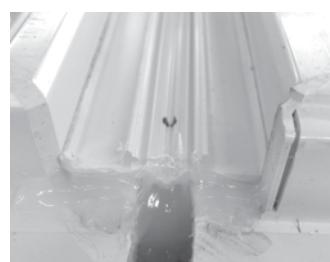
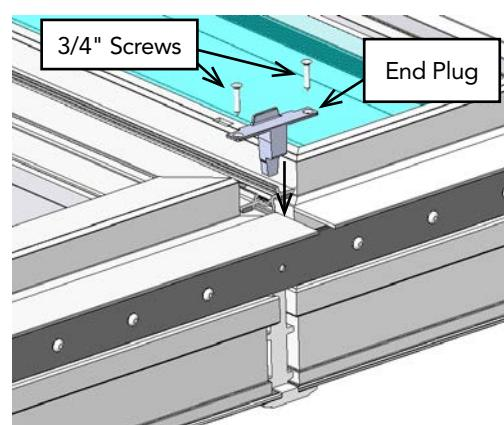

Figure 16b
Figure 22
Place the supplied End Plug against the exterior mullion **at the sill end only**, between the gap in the frames as shown (Figure 16). **NOTE: The flange of the end plug will need to be cut off on the door side only to clear the sill.** (As shown in Figure 16a) Fill the cavity and frame areas where the plug fits with caulk. (Figure 16b) Start the end plug at an angle and push the down firmly onto the frames, making sure the caulking in the grooves makes a good seal between the frames and the end plug. Install a #6 x 3/4" screw in the hole in the flange of the end plug and into the sidelite frame.
26. Fill the cavity and frame areas where the plug fits with caulk (**Figure 16b**). Place a supplied end plug against the exterior mullion on both ends as shown, between the gap in the frames (**Figure 22**). Start the end plug at an angle and push the down firmly onto the frames, making sure the caulking in the grooves makes a good seal between the frames and the end plug. Secure the end plug with #6 x $\frac{3}{4}$ " screws.